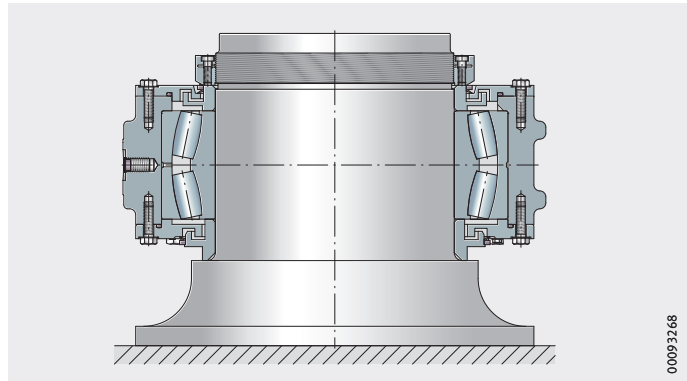

Figure 16
- ▶ Mount the shaft nut in accordance with the manufacturer's mounting manual and secure against loosening, *Figure 16*.